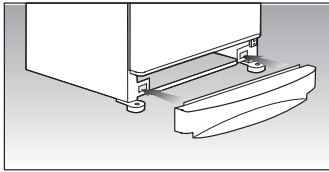

Fig. 3
• Fit the bottom airing lid given in your appliance as shown in the diagram to the pins facing one another on the feet at the bottom of the door. Make sure claws and pins to hold each other for the pins-claws connection (**Fig. 3**).